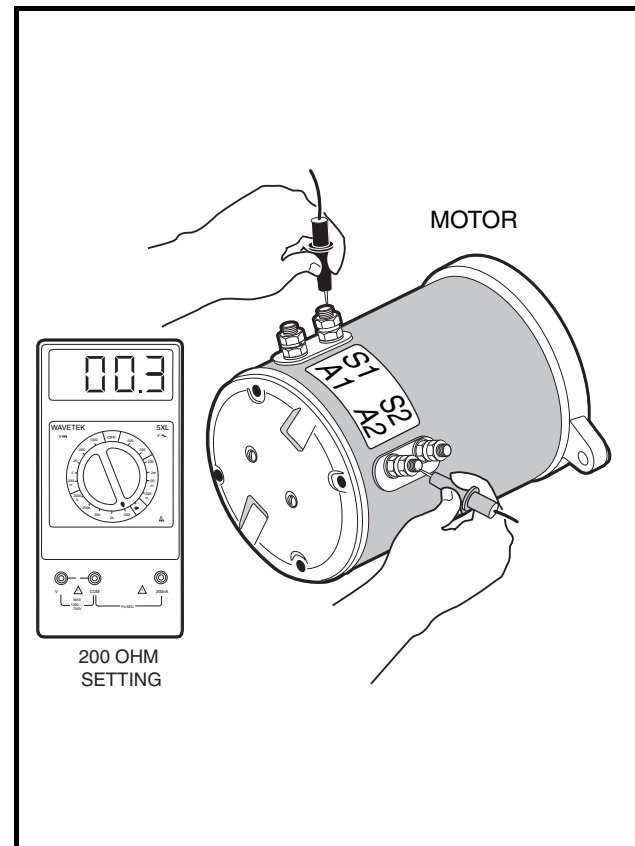

Figure 11-22 Forward/Reverse Continuity Test (Reverse Position)
5. With Forward/Reverse handle in REVERSE, place red (+) probe on the A2 motor terminal and the black (–) probe on the S1 motor terminal. Meter should indicate continuity. If continuity is not obtained, and all wires and connections are correct, replace Forward/Reverse switch (**Figure 11-22, Page 11-20**).